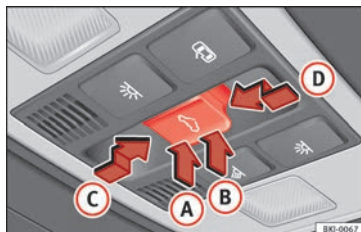

Fig. 141 On the interior roof lining: sunroof button.
The button  »» **Fig. 141** has two levels. The first level switches the sunroof to the tilted position, opening or closing it fully or partially.
- Before approx. 5 seconds of having activated the anti-trap function, press the button  » **Fig. 141** to the second level in the direction of arrow » **Fig. 141** **D** until the sunroof closes completely.